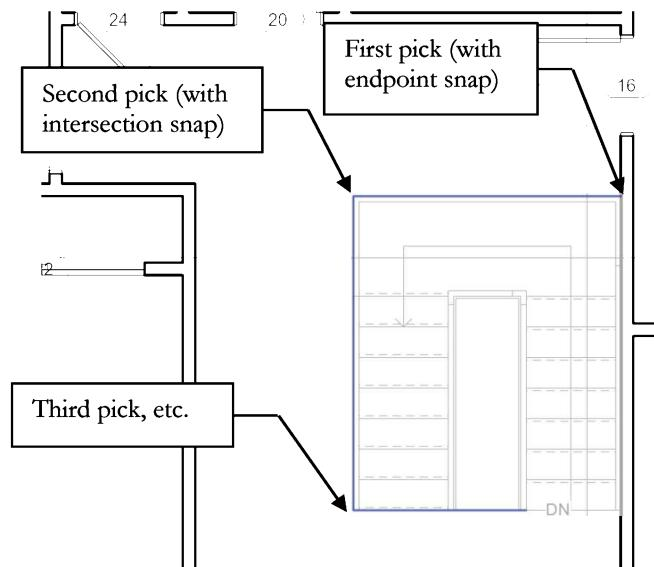

FIGURE 12-4.1 Second Floor: adding a guardrail
5. Draw a line along the edge of the floor as shown in **Figure 12-4.1**.